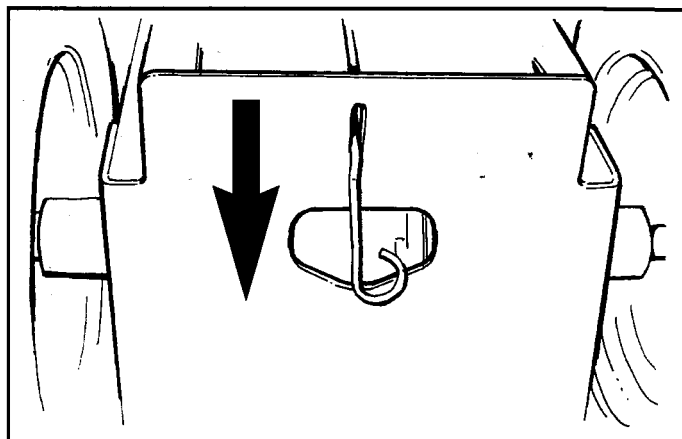

Figure 10. Hydro Transaxle Release Lever - Push Position
3. See Figure 10. To push the tractor by hand, the release lever must be placed in the PUSH position. Pull release lever handle out and down until lever locks in fully released position.